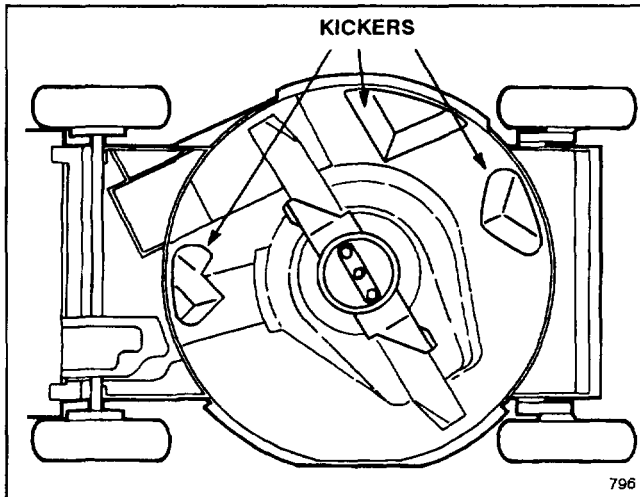

Figure 31
To ensure best performance, keep underside of mower housing clean. Be especially careful to keep kickers free of debris (Fig. 31).
3. Tip mower on its left side (Fig. 31). Avoid rotating blade as starting problems may result.